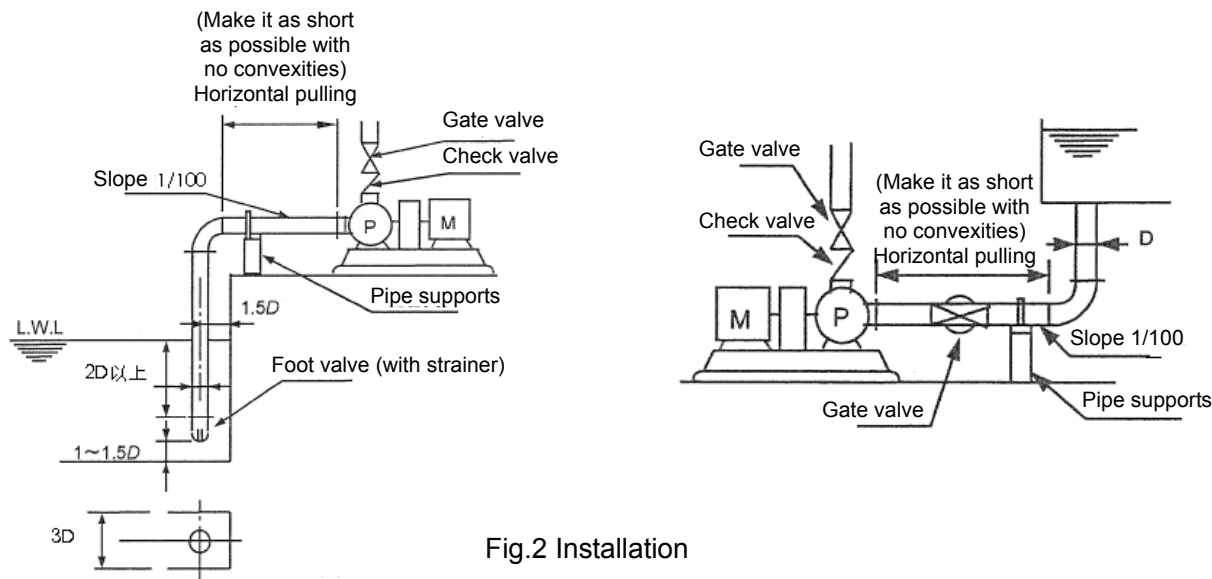

Fig.2 Installation
- (1) Provide sufficient pipe supports so that there is no load on the pump from the suction pipe and discharge piping.
- (2) Install a check valve when the pipe is long, the actual pump head is high, in automatic operation, when water is delivered to a pressure tank, or when 2 or more pumps are operated in parallel. Install the check valve between the pump and the discharge valve.
- (3) Install air vent valves at locations on the device where accumulation of air cannot be avoided. However, do not install in the suction pipes or other locations where there will be negative pressure. Conversely, air will be sucked in.
- (4) When there is a danger of water hammer, take measures such as the installation of emergency check valves
- (5) When sucking
- (a) Place the suction pipe end at a depth of at least twice the pipe diameter (D), at least 1 to 1.5 D away from the bottom.
- (c) As shown in Fig.2, the suction pipe should be as short as possible, with minimal bend. Set a rising gradient towards the pump, and do not install a gate valve. There should be sufficient seals to ensure that air is not sucked in from suction pipe connectors.